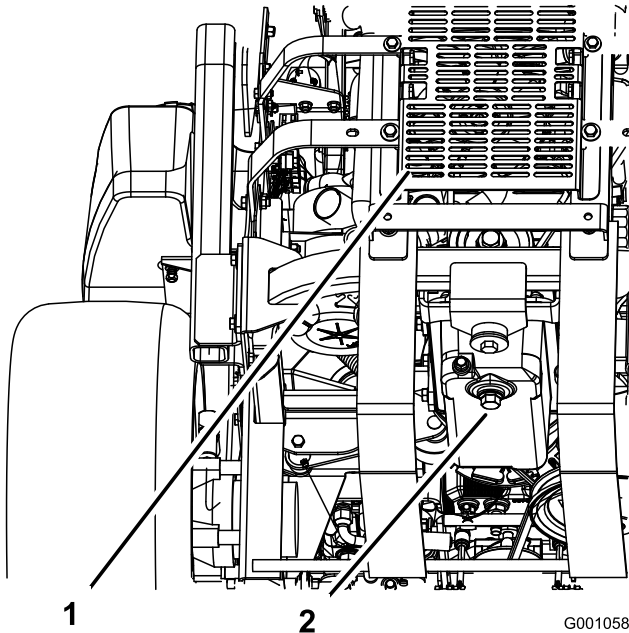

Figure 61
5. Place a pan below the oil drain. Remove the drain plug and let the oil drain completely (Figure 61).